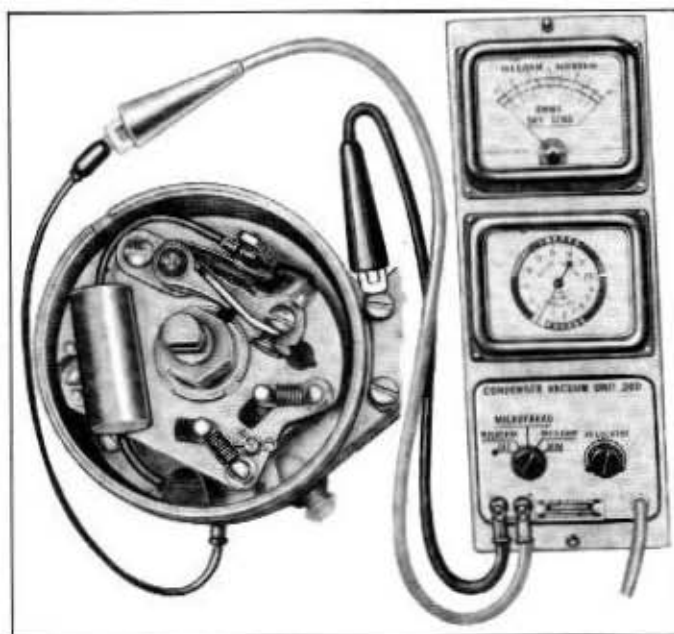

Fig. 9-52—Testing Distributor Condenser—(60C-7709)
1. After calibrating the Condenser Tester, leave switch in MICROHM position and connect tester leads to distributor as shown in figure 9-52. (One wire connected to primary terminal of distributor and the other wire to distributor housing).